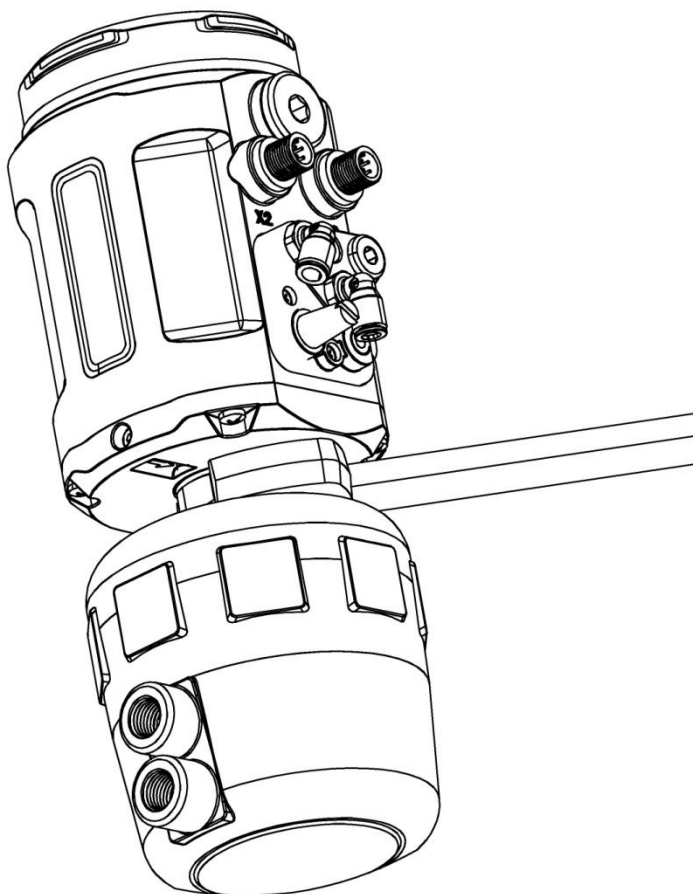

Figure 7. Actuator Combination
4. Raise the internal valve stem of the actuator to the highest position. Make the actuator connection of the positioner entering into the thread connection of the actuator by **NO.32 wrench**. As shown in Figure 7.
If you need to adjust the interface angle, relax the hexagon screw in place A (As shown in Figure 7) first. Then adjust the angle clockwise or counter-clockwise in 180°range. After adjusting the angle, lock the angle by the hexagon screw.